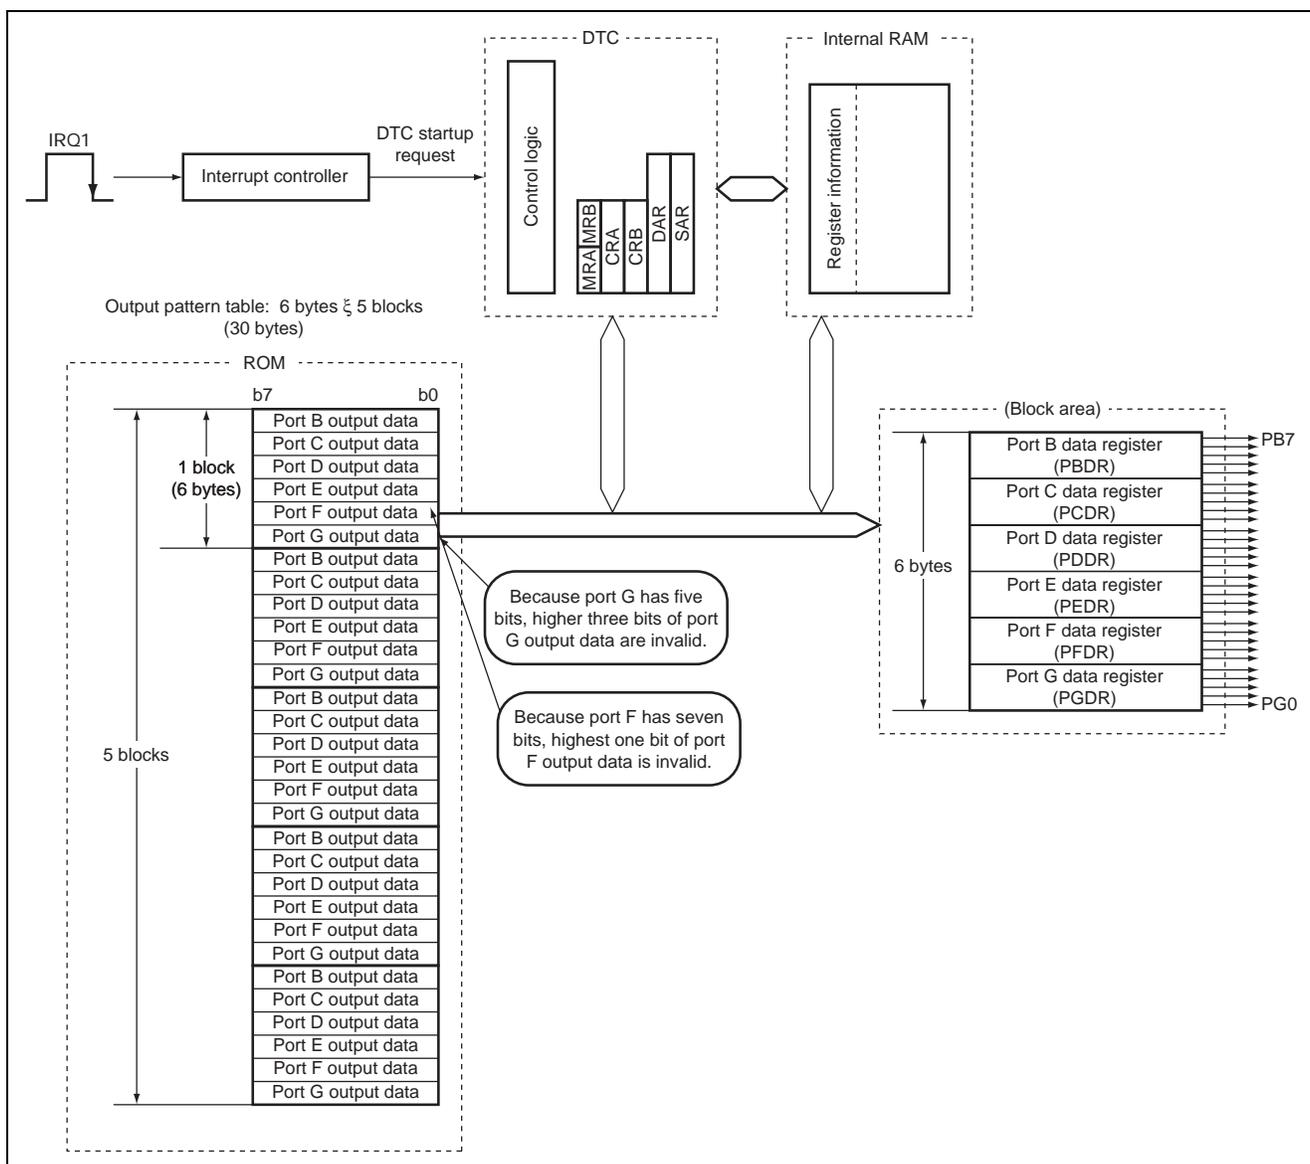

Figure 2 Block Diagram of Block Transfer by DTC
- A. The block diagram of DTC used by this sample task is shown in figure 2. This sample task uses the following functions for transferring blocks: